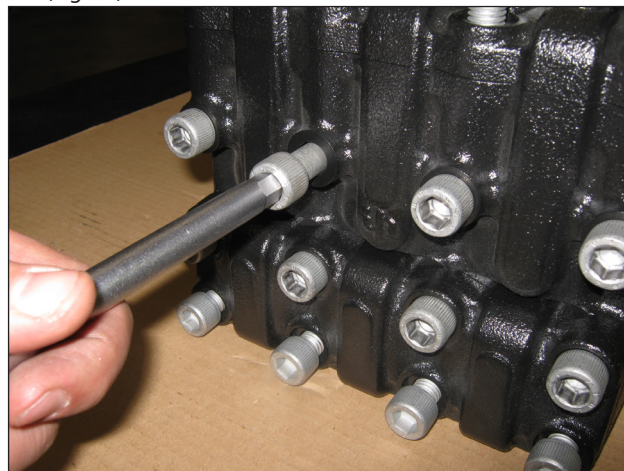

Fig. 36
- A) Unscrew the M12x130 (M12x150 on SN6416 and SN6418 (M12x190 on SW64) head fixing screws as indicated in (Fig. 36).